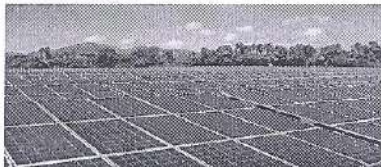

Fig 8: Solar Panels
Photovoltaic (PV) cells are used in solar panels as shown as fig.8, which are devices that use sunlight to generate electricity [10]. Usually composed of silicon, these cells produce direct current (DC) when they come into contact with sunlight. DC is transformed into alternating current (AC) for use in homes or businesses using a solar converter.